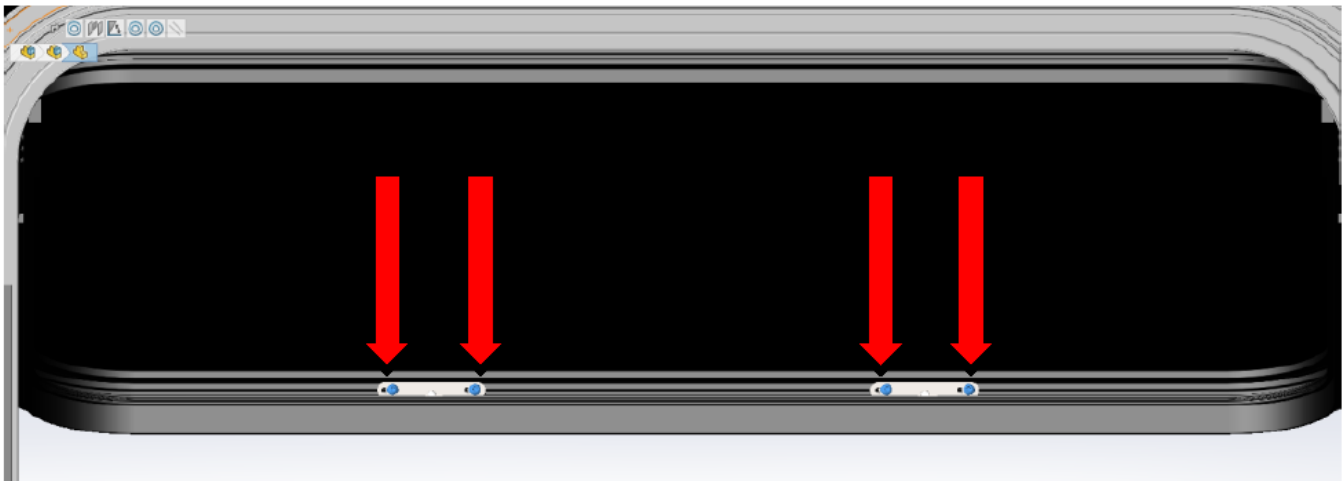

Figure 4: Remove Pin Strike Fasteners
- b. Locate and remove the 1/8" hex head fasteners in the pin strikes. See Figure 4.